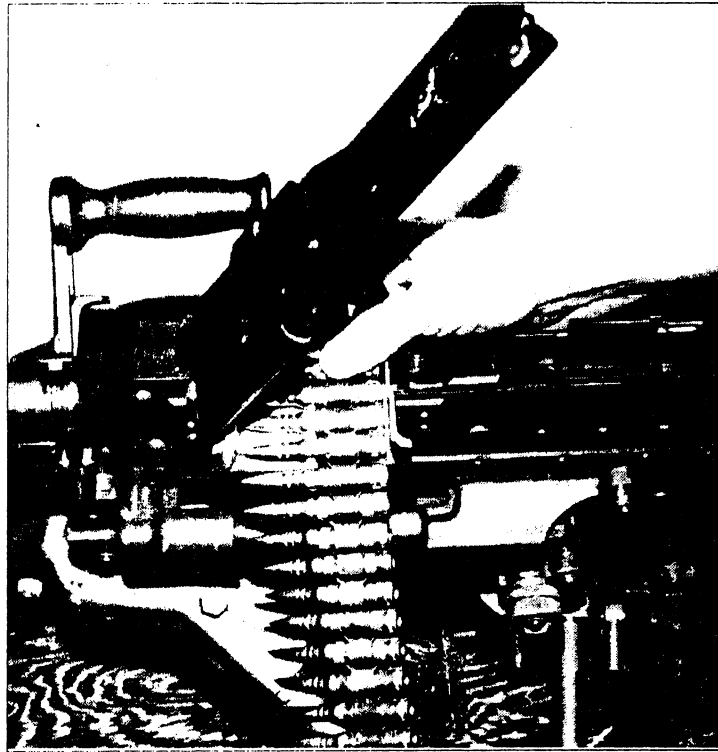

Fig 2-1. Loading the M240G.
3. The team leader places the link belt in the feed tray with the first round against the cartridge stop (see fig 2-1).